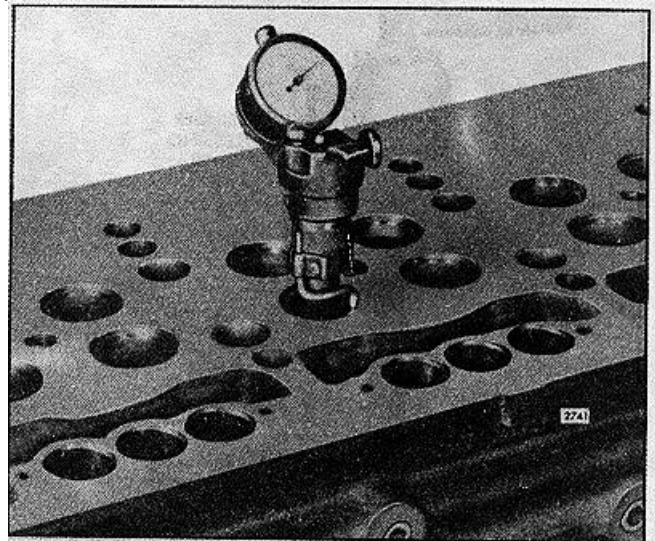

FIG. 17 Determining Concentricity of Valve Seat Insert with Dial Indicator
4. After grinding has been completed, clean the valve seat insert thoroughly with fuel oil and dry it with compressed air. Set the dial indicator J 8165-2 in position as shown in Fig. 17 and rotate it to determine the concentricity of each valve seat insert relative to the valve guide. If the runout exceeds .002", check for a bent valve guide before regrinding the insert.